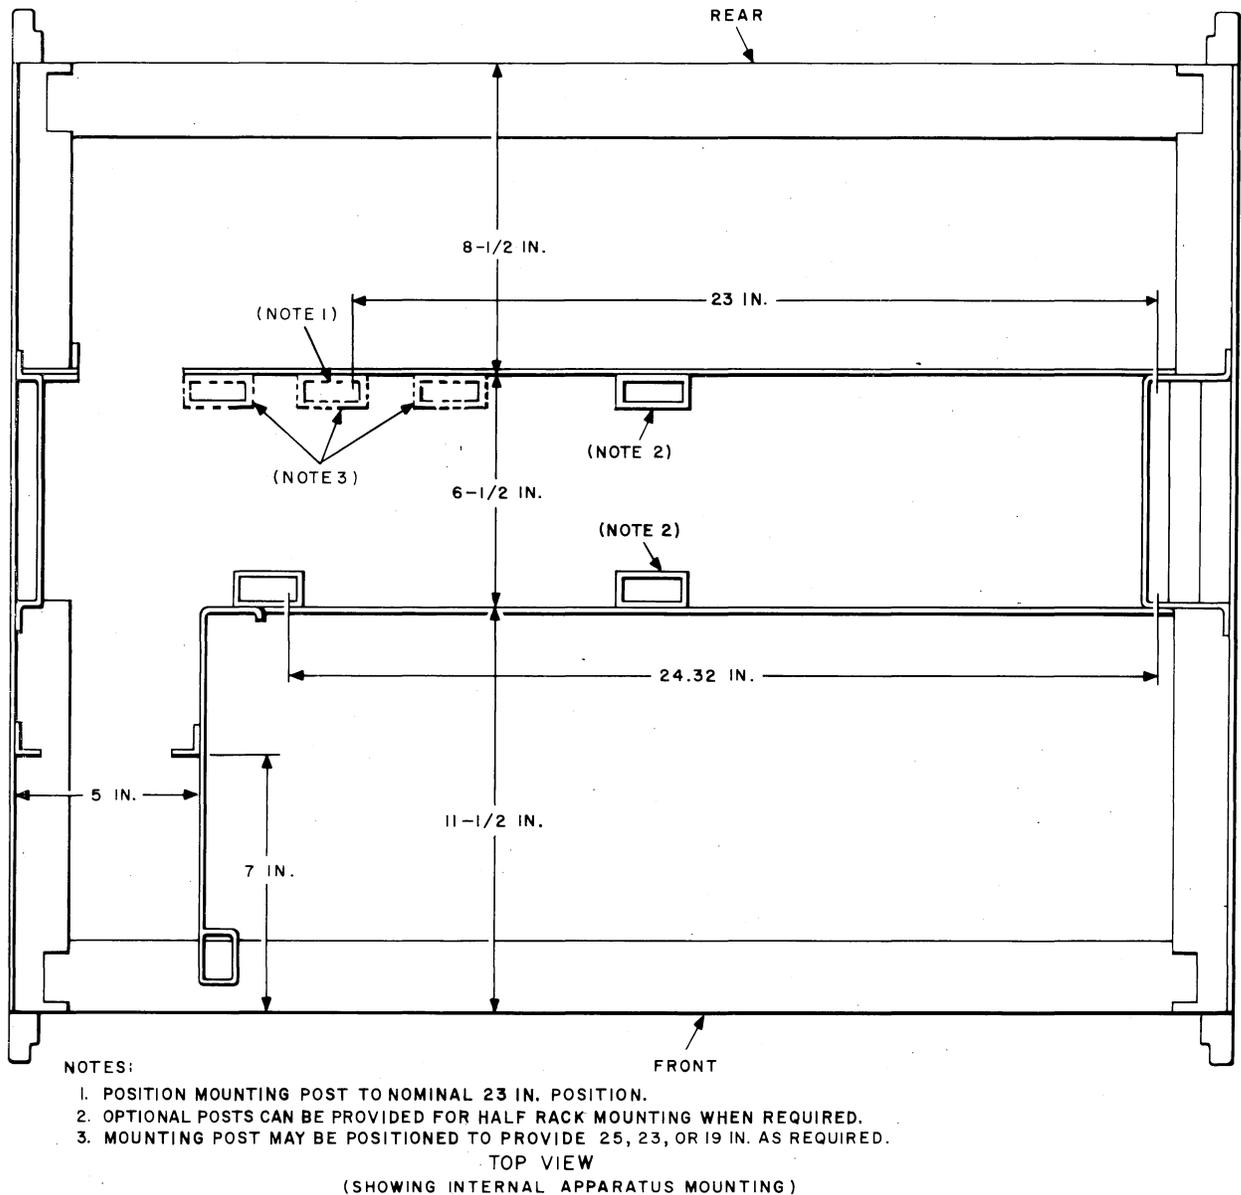

Fig. 4—Mounting Post Position for Mounting the 4A-Type Data Mounting
2.06 Before starting the installation of the 4A-type Data Mounting, the rear mounting post must be located in the correct position to provide a nominal 23-inch mounting surface. Refer to Fig. 4 for information on positioning the mounting post which is installed by using four No. 12-24 by 3/8 mounting screws. Do not make any cable or electrical connections to the 4A at this time.